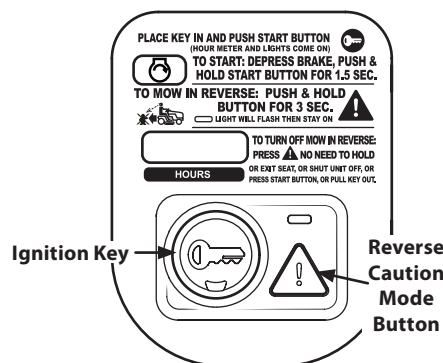

Figure 3-6
2. Press the REVERSE CAUTION MODE (a) button and hold for 3 seconds. The indicator light will flash for 3 seconds and will stay on when the REVERSE CAUTION MODE (a) is activated. See Figure 3-6.
3. The indicator light above the REVERSE CAUTION MODE (a) button will be ON while activated. See Figure 3-6.